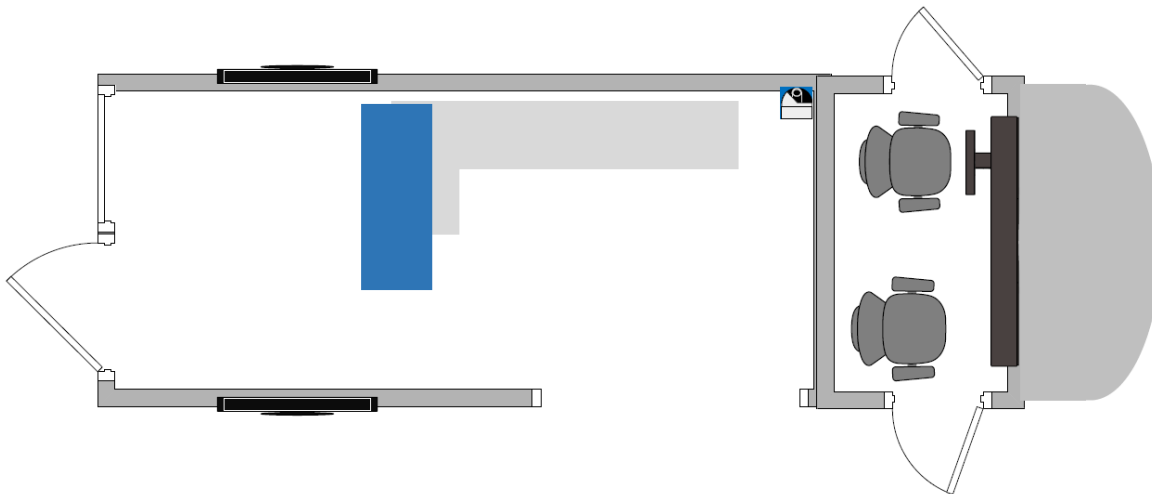
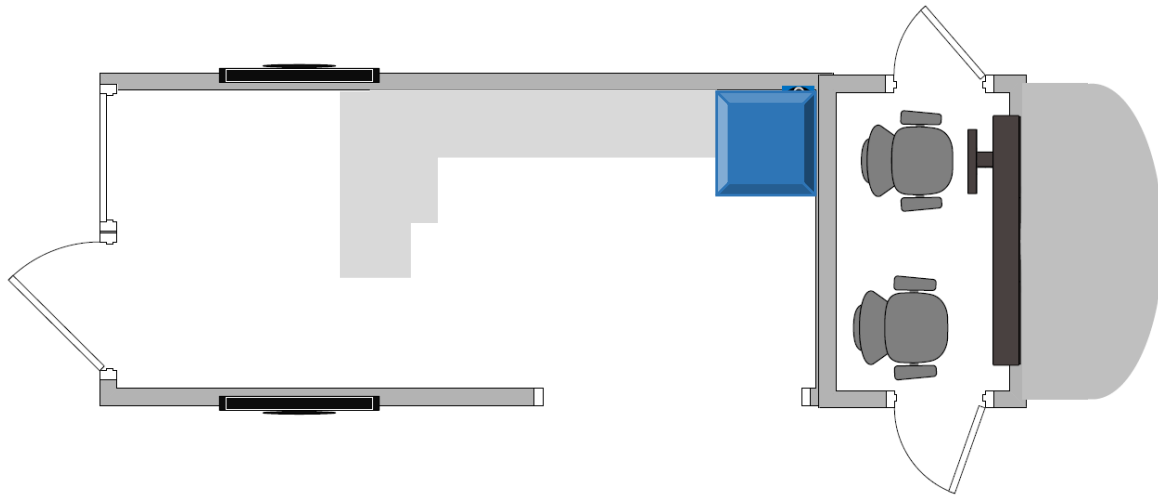

Figure 2 (Blue)
Figure 3 (Blue)
8.	One (1) cabinet (white powder coated) must be supplied and installed from the ceiling above the 19 3/4 length portion of the "L shaped" workbench (See Appendix B – Figure 2). Cabinet must be fabricated out of aluminum with all door/drawers having self-latching hardware.
9.	The wall from the work bench to the ceiling must be reinforced to support four (4) computer monitors. Monitors will be supplied by the RCMP, contractor to supply brackets and install monitors.
10.	A 14" X 14" aluminum clothing locker with a top shelf must be placed against the aluminium divider. Minimum height 60". Appendix B – Figure 3). Must be white powder coated.